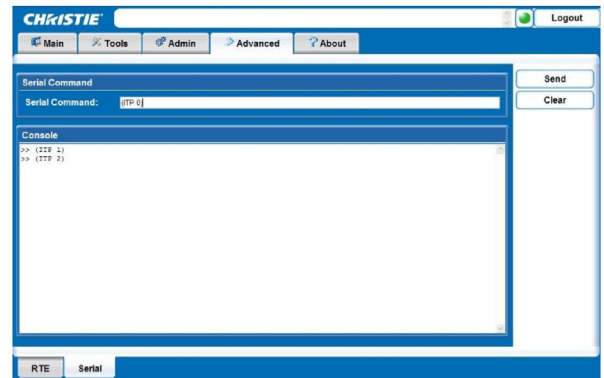

FIGURE 4-22 ADD SERIAL COMMAND
2. Click Send to add the serial command. See *Figure 4-22*.